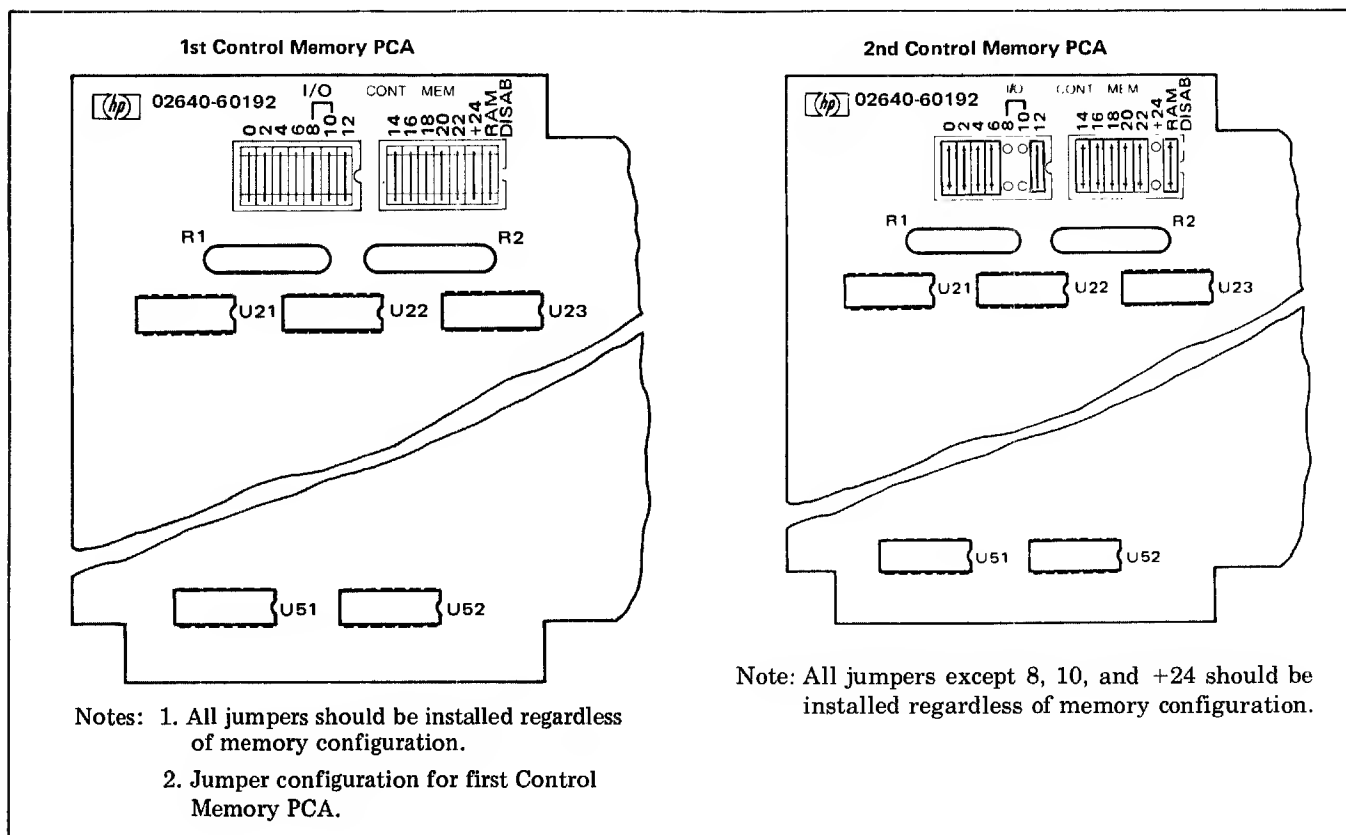
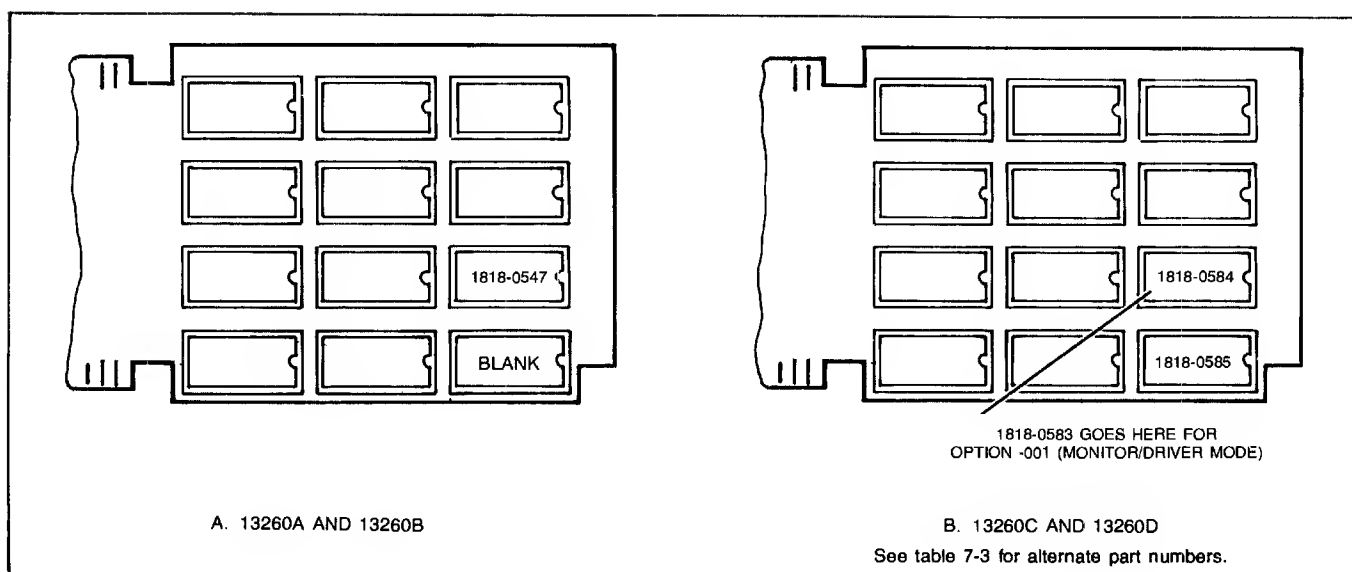

Figure 7-8. Control Memory PCA Jumper Socket Location
Figure 7-13. Control Memory PCA Data Comm Firmware IC Locations
7. () Remove IC's, if present, from DATA COMM sockets 20 and 22 of Control Memory PCA (see figure 7-13).
9. () Carefully insert ROM(s) contained in accessory package into DATA COMM socket(s) so that ROM pin 1 is at upper right corner of socket (see figure 7-13). Also, be sure that all jumpers are installed as shown in figure 7-8, "1st Control Memory PCA."